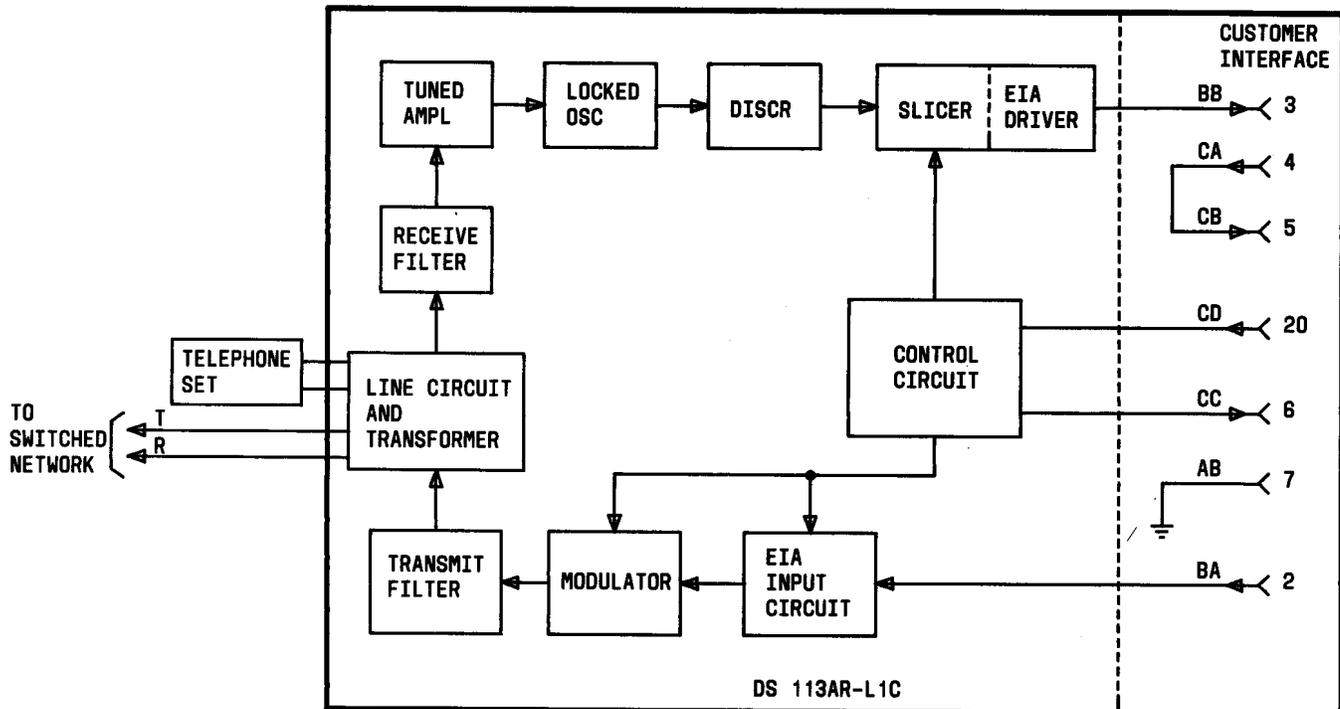

Fig. 4—Simplified Block Diagram of DS 113AR-L1C
4.01 Data Set 113AR-L1C is an originate-only data set capable of transmitting and receiving low-speed full-duplex data over the switched network. Refer to Fig. 4 for a simplified block diagram of the data set.